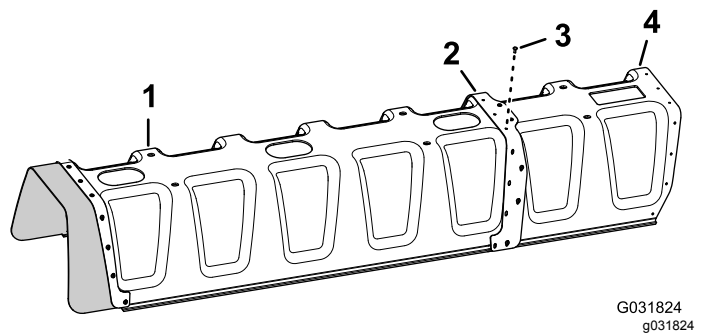

Figure 147
4. Secure the cover extension to the 11-nozzle section cover (Figure 147) with 11 pop rivets (Toro Part No. 114439).